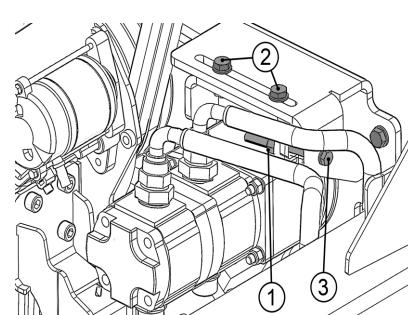

Figure 27 - Pump belt adjustment
1. Loosen the M8 hex nut (Figure 27, Item 1) to the end of the thread.
2. Loosen the two M10 screws (Figure 27, Item 2) by one turn.
3. Adjust the M8 tensioning bolt (Figure 27, Item 3) until the correct belt tension is achieved. (Refer to Section 5.11 "V-Belt Tensioning Procedure" on page 48.)
4. Tighten the two M10 securing screws (2).
6. Tighten the M8 hex nut (1).